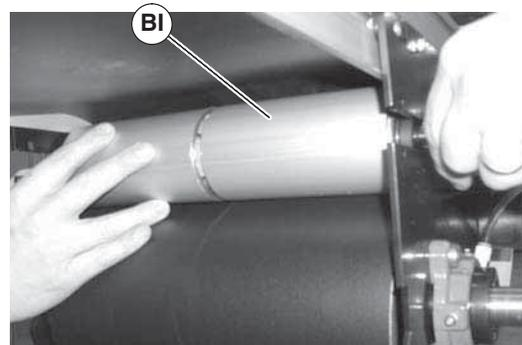

Figure 85
7. Slide out tensioning pulley (Figure 85, item BI).